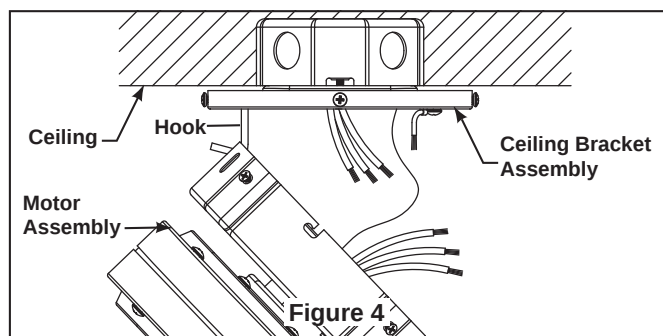

Figure 4
- ☐ 3. Hook the motor assembly onto the ceiling bracket assembly as shown. (Figure 4)
- ☐ 4. Replace the screws removed in step 2 and securely tighten all four screws. (Figure 4)
- ☐ **4.** Remove the three screws at the very bottom of the motor assembly. Make sure the plug connectors pass through the hole in the center of the switch housing assembly. Assemble the switch housing assembly onto the motor assembly using the three screws and securely tighten. (Figure 4)
- ☐ 4. Remove one of the three screws in the shade assembly. Slightly loosen the remaining two screws. Assemble the socket plate assembly to the shade assembly using the two key slots in socket plate assembly. Replace the third screw and securely tighten all three screws. (Figure 4)
- ☐ **4.** The hand-held remote transmitter includes buttons for high, medium and low fan speeds as well as fan off and light on/off. Infinite light levels are available by holding the light on/off button. (Figure 4)